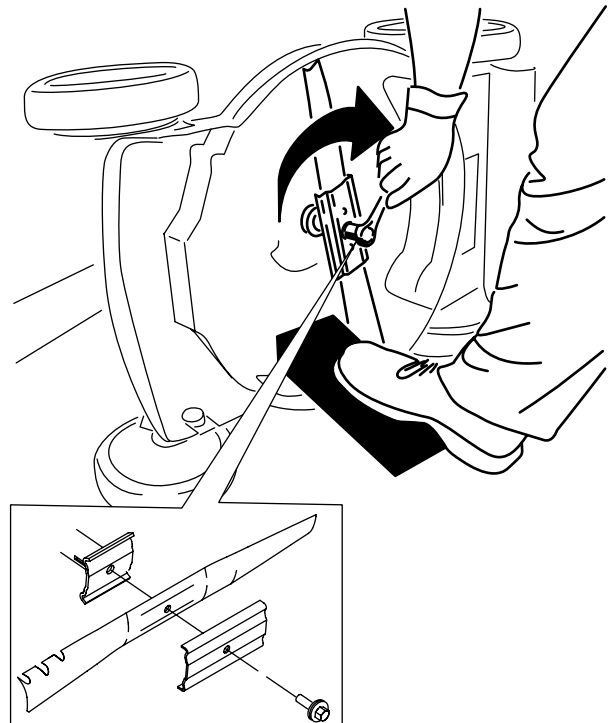

Figure 34
5. Install the new blade and all mounting hardware (Figure 34).